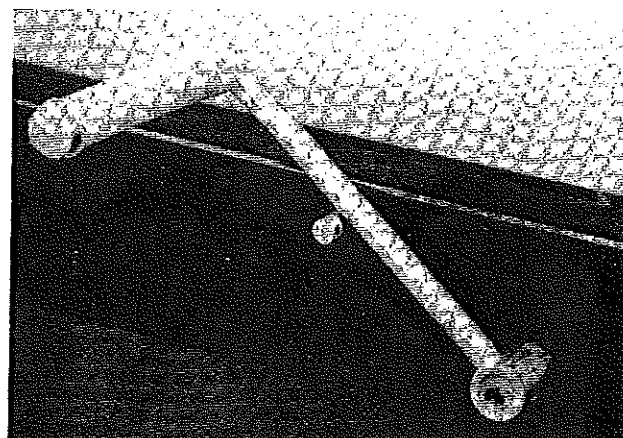

FIGURE 5
11. On all Roanoke series trailers, it will be necessary to engage the safety latch (located on the rear bumper adjacent to the crankshaft) by pushing in on the latch, thus allowing the spring-loaded pin to pop out. The crank handle will rest against it once the top is completely raised. See Figure 5.